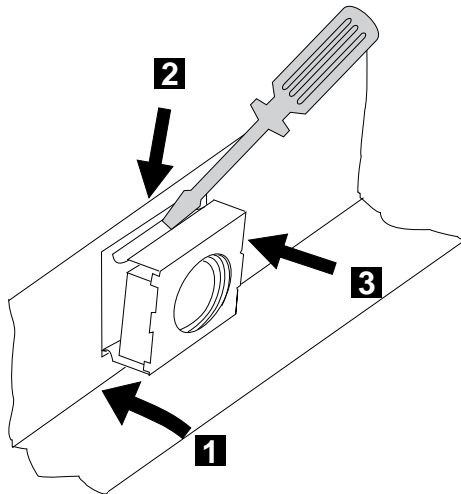

Figure 1-24. Installing the Captive Nuts
2. \_\_\_\_ Refer to Figure 1-24 to **install** the two captive nuts (PN 58G5766).